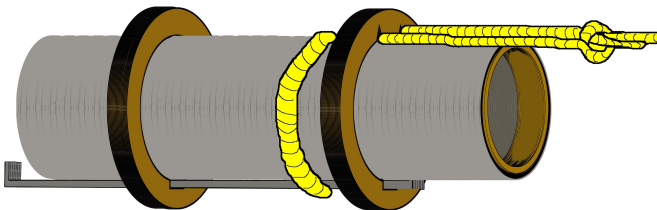

Figure 3
- **Step 3** Tie a knot about 5” from one end of the Kevlar thread. From the front of the forward ring, as shown in Fig. 3, push the short end of the thread through one of the “V” notches. Loop the thread around the mount, and push the tip of the thread through the other “V” notch from the back. Tie a slip knot with the short end of the thread around the long end, forward of the